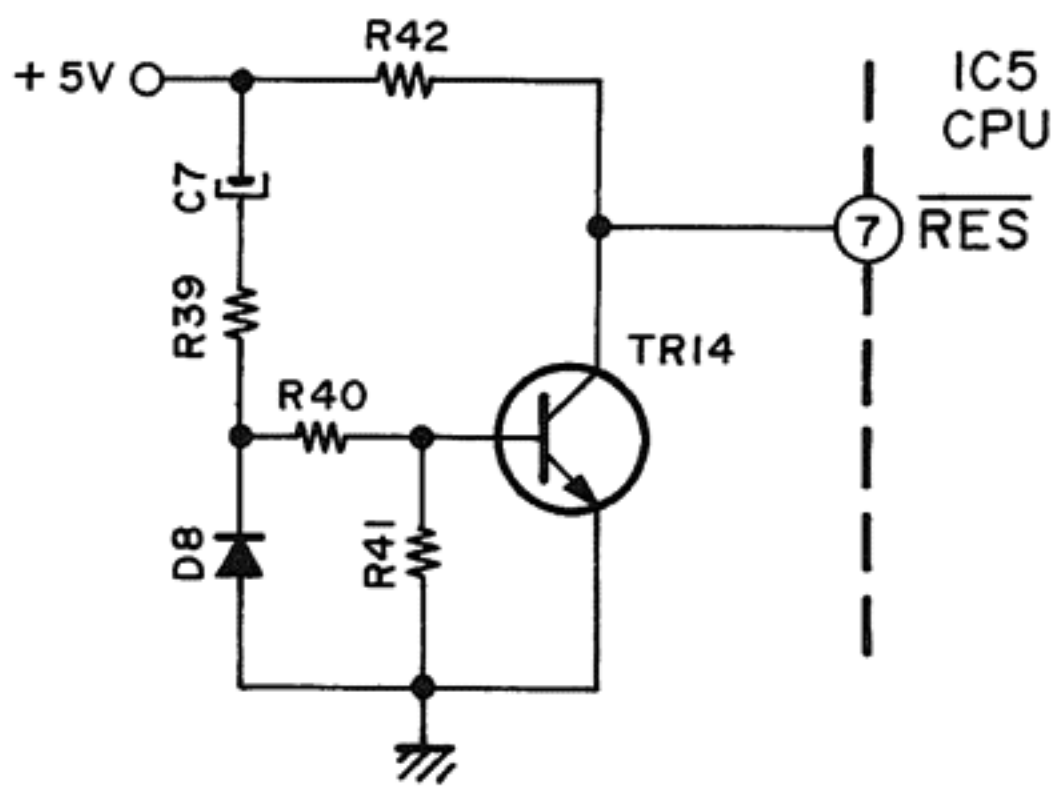
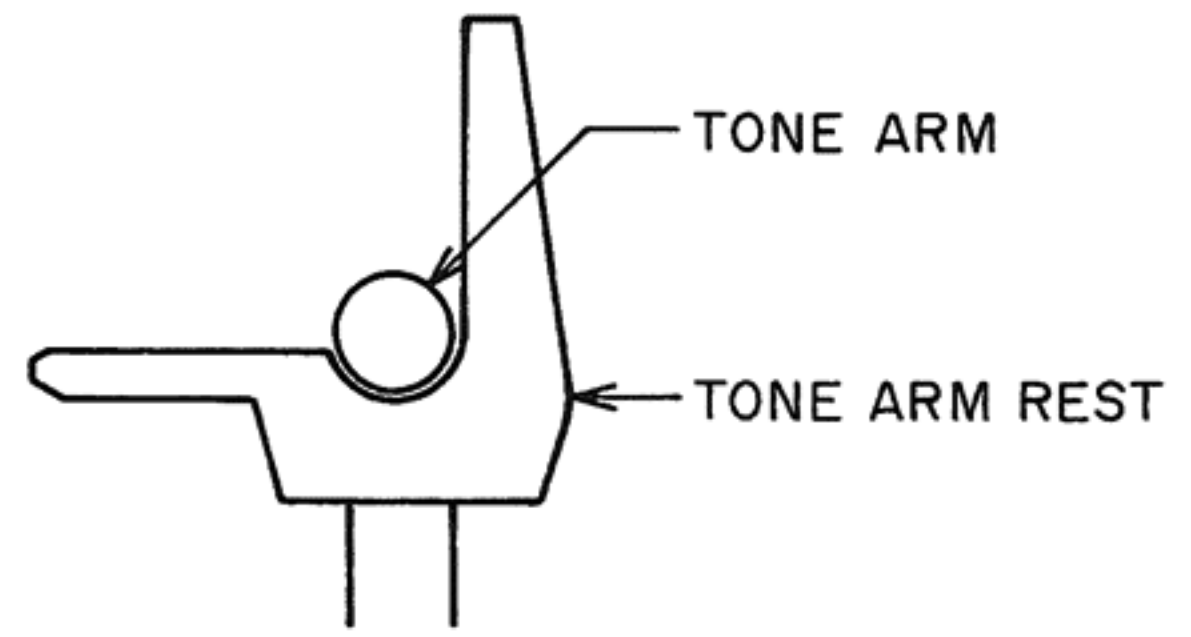

Fig. 11 Initialize
Fig. 12 Tone Arm Clamp Position
- 1) When TR35 is on and +5V is produced, TR14 is kept on until C7 is charged and meanwhile, when TR14 is turned on, IC5 ⑦ ($\overline{\text{RES}}$) becomes "L" and CPU (IC5) is set to "INITIALIZE". (Refer to Fig. 11).
- 2) When the power switch is depressed while the tone arm is not placed at the tone arm clamp position, IC5 ⑨ (REV) becomes "L" and IC5 ⑩ (FAST) becomes "H", which will return the tone arm to the "tone arm clamp position".
When IC5 ⑨ (REV) becomes "L", TR10 is turned on and, then, SW B and SW D of IC2 are turned on (Refer to Fig. 12 and 13).